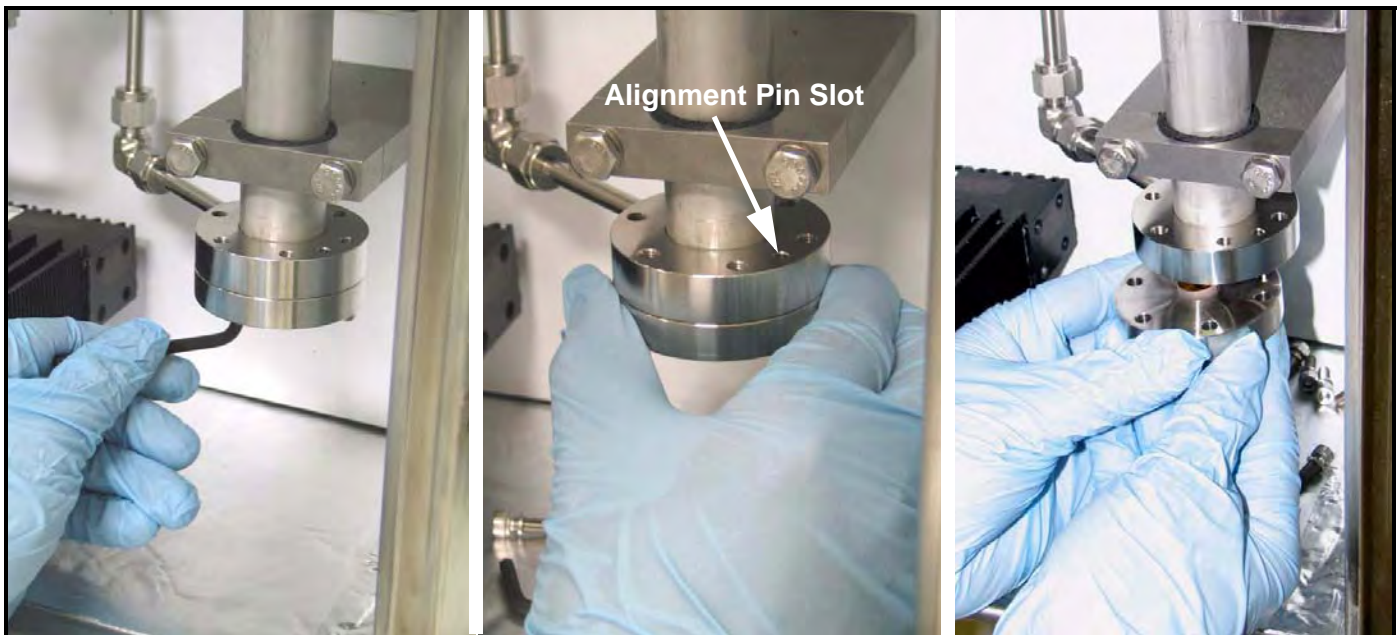

Figure 73: Removing the Aurora H₂O Mirror
4. Remove the 6 hex bolts securing the mirror (see Figure 73). A 5/32 inch allen wrench is required to accomplish this task. Hold the stainless steel base of the mirror with one hand while removing the last retaining bolts. The mirror is removed straight down. There is one alignment pin which will facilitate proper removal.